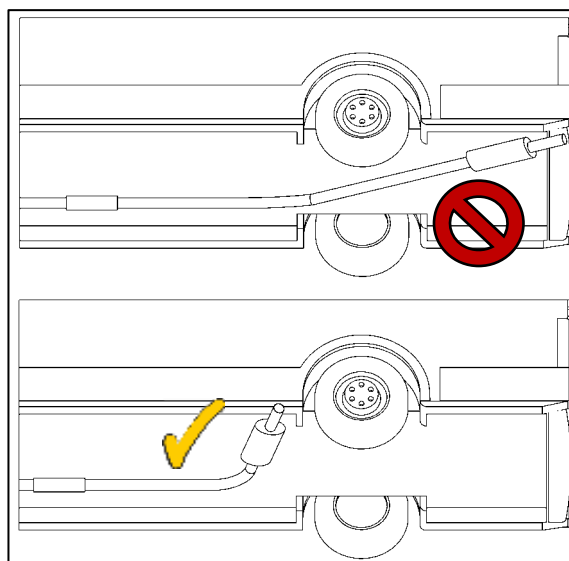

Fig. 8
- Be sure to maintain a sufficient distance from heat-sensitive parts. The minimum distance from plastics and cables is 300 mm (see Fig. 8).